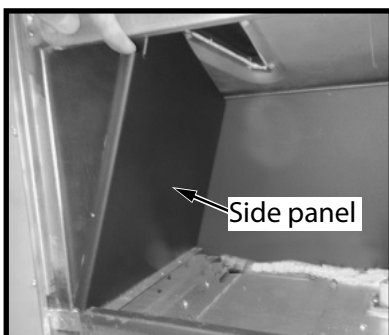

Figure 43: Side panel.
2. Insert first side (2 & 3) panel by inserting the front edge of the panel into the lip at the front of the firebox. Then slide the back of the panel until it reaches the firebox side wall. See Figure 43.